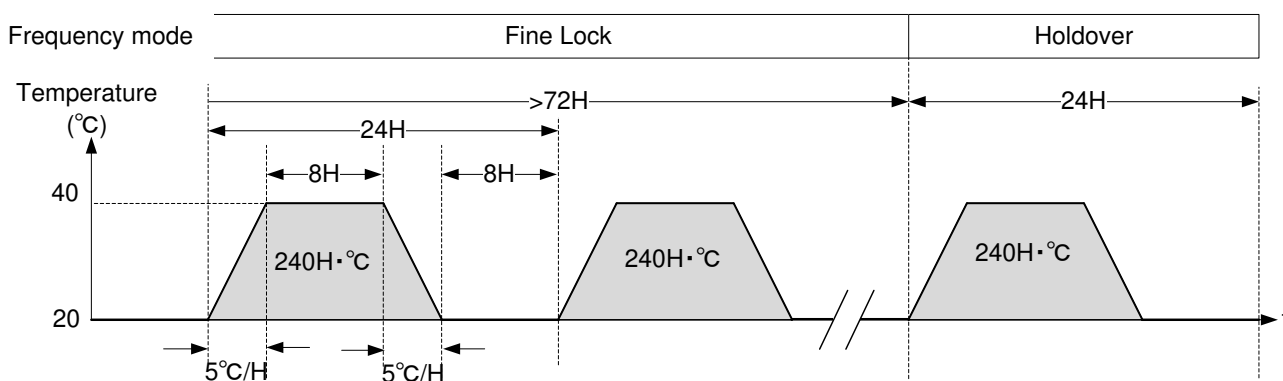

Figure 7.1 Holdover Measurement Environment
- 13) These are measured at the environment shown in Figure 7.1.